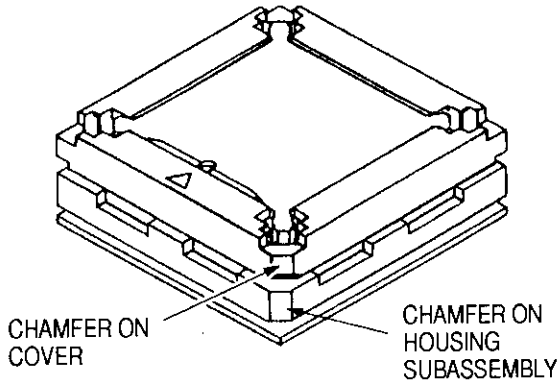

Figure 5
1. Turn the cover-and PQFP assembly back over and place it onto the housing, making sure that the chamfer on the cover aligns with the chamfer on the housing (see Figure 5).